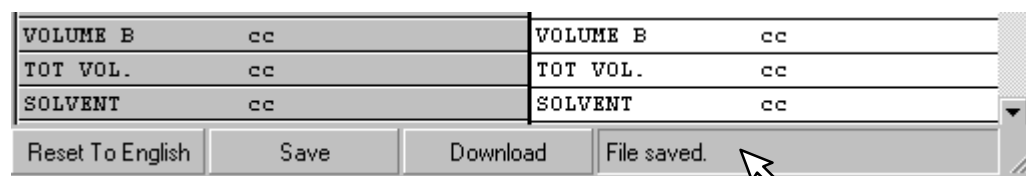

Fig. 13.64
7. If the save is successful, "File saved" will display in the bottom right corner of the screen. See Fig. 13.64.